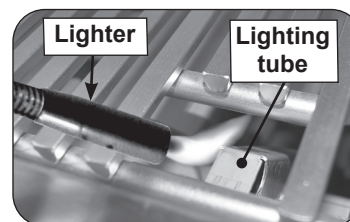
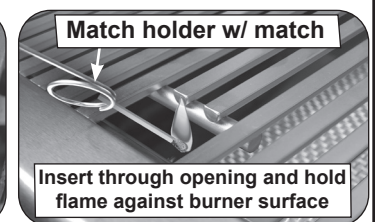

Fig. 31-2 Manual lighting via lighting tube
Fig. 31-3 Manual lighting via match holder
2. Insert either a burning long-barrel butane lighter or a burning long-stem match through the cooking grid opening to the top of the lighting tube (see Fig. 31-2). For backburners or infrared burners, hold the flame against the surface of the backburner/infrared burner. For side burners, hold the flame against the burner. Grills equipped with an infrared burner include a wire extension match holder (attached to drip tray) to assist with manual lighting (see Fig. 31-3).
4. If the burner does not light within five (5) seconds of turning the control knob, **immediately depress the knob and turn the valve to OFF**. **WAIT FIVE (5) MINUTES** before repeating steps 2 through 4 of the **MANUAL LIGHTING** instructions.